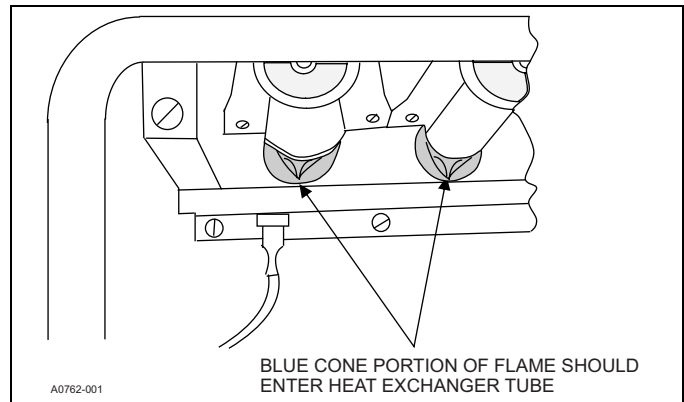

FIGURE 2: Burner Flame Drawing (Upflow Configuration Shown)
6. Examine the burner flames to make sure they are in good adjustment. See Figure 2 as a comparison to the actual flame.